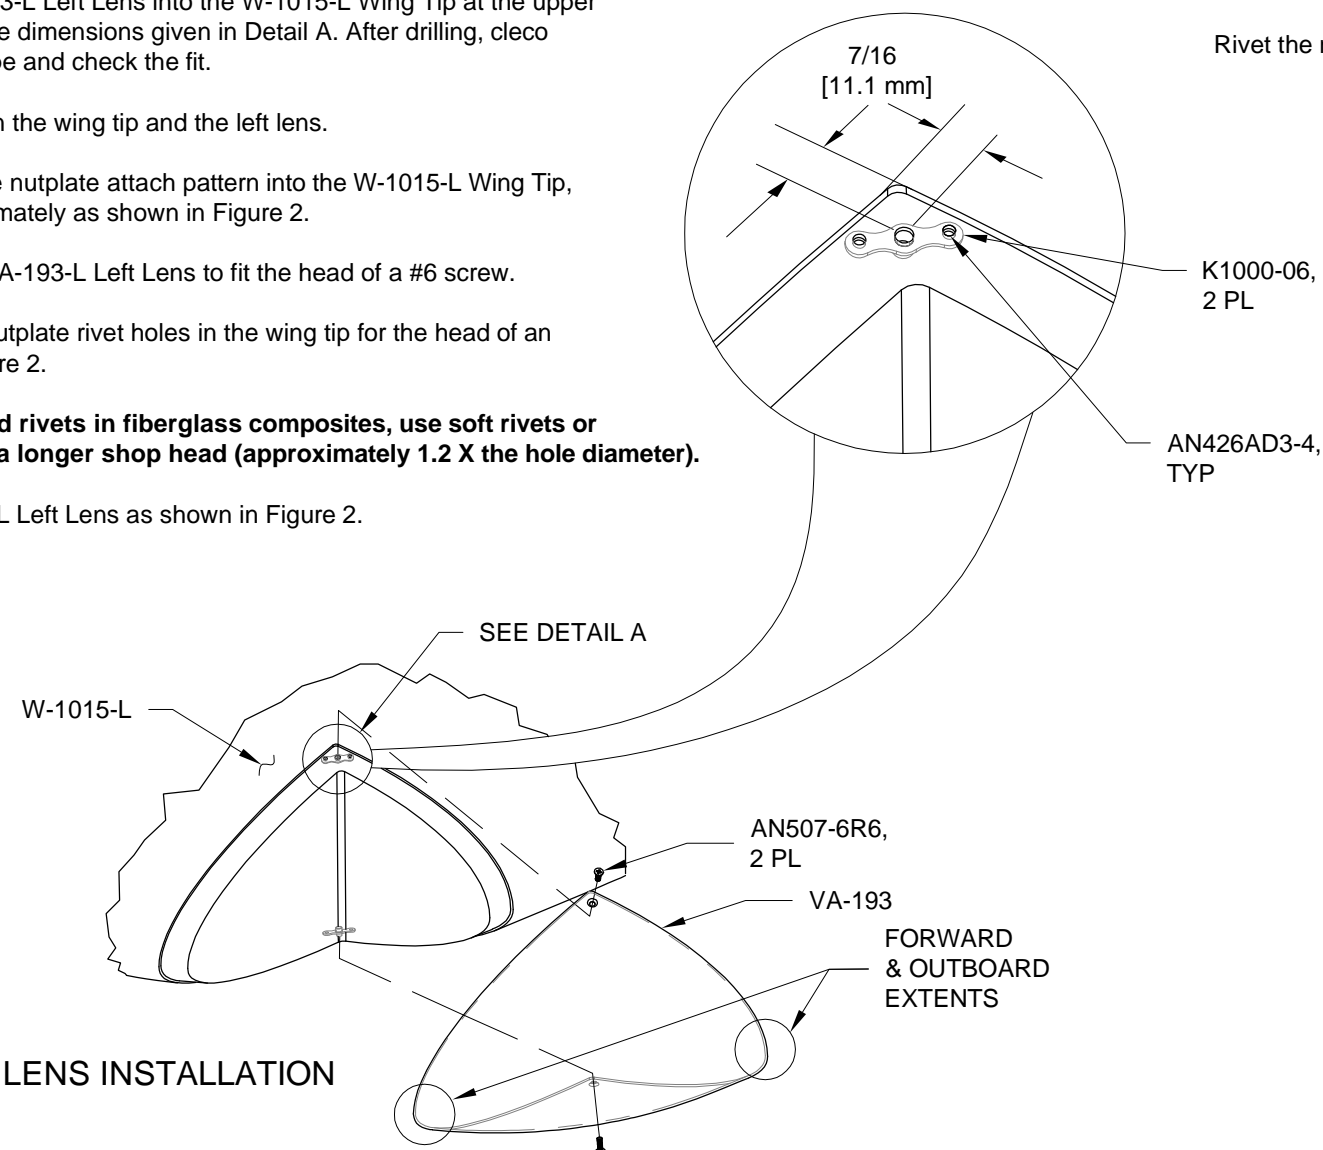

FIGURE 2: LENS INSTALLATION
Machine countersink the nutplate rivet holes in the wing tip for the head of an AN426AD3 rivet. See Figure 2.
Step 6: Install the VA-193-L Left Lens as shown in Figure 2.